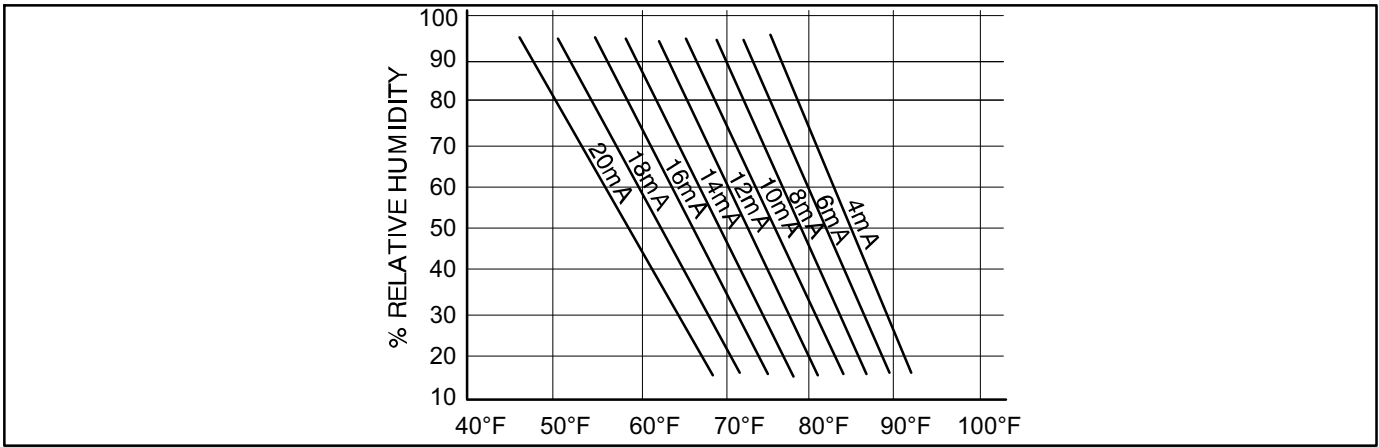

Figure 3. Enthalpy Sensor Output Current Honeywell C7400
This setting pertains to the single enthalpy free cooling mode only. The M3 unit controller will enable free cooling when outdoor air enthalpy (A7) is less than the enthalpy set point (parameter 162 - ECON FREECL ENTH SP). Figure 3 shows the approximate enthalpy sensor output at various temperatures and percentage of relative humidity.
- B** The reading will be between 4 and 20 ma. depending on outdoor temperature and humidity. Refer to figure 3 to approximate reading.